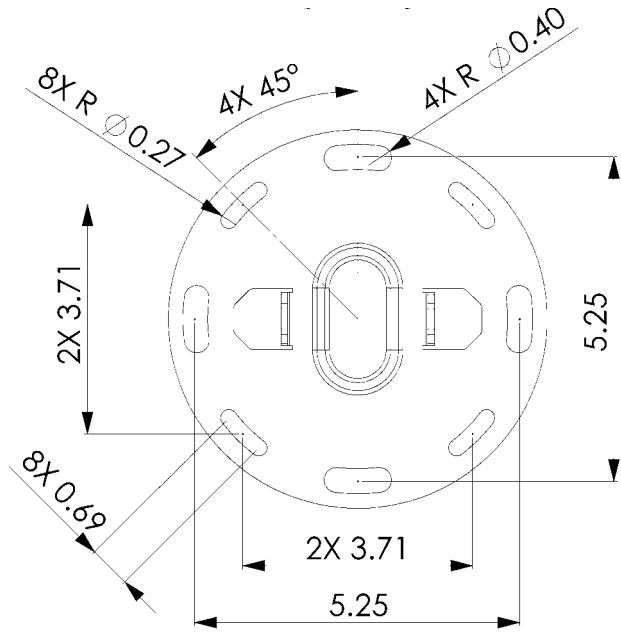

Figure 4. Ceiling Plate Hole Pattern
1. Place ceiling plate over adjustable bracket, lining holes in plate with holes in mount (see Figure 4).